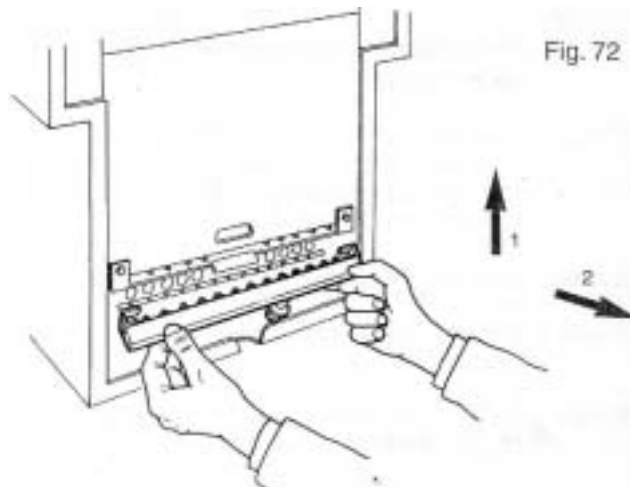

Fig. 72
- 7.14.4 Pull the manifold up and out from the combustion chamber (Fig. 72).